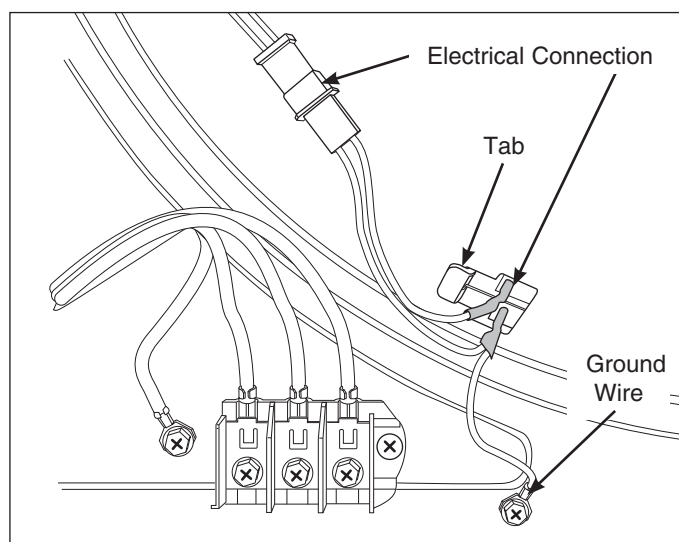

Figure 4-27.
NOTE: The electrical connection can be disconnected at the molex connector and with the removal of the ground wire screw as shown in Figure 4-27.
3. From inside the drying compartment, extract the screw securing the moisture sensing bars to the back wall. (See Figure 4-27)